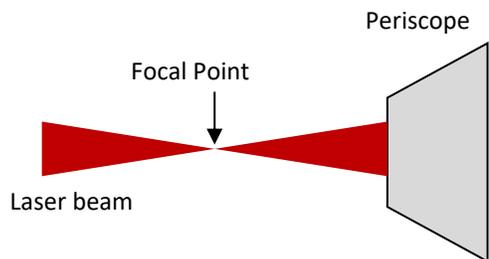

Figure 6 Top View of Periscope and Laser Beam showing Focal Point of Beam
9. Monitor the spatial intensity distribution of the laser beam by placing a piece of paper somewhere in the path of the laser beam, far from the periscope. Bring the paper closer to the periscope. The laser spot will keep getting smaller until it reaches its minimum diameter after which it will increase in size again. This is shown in Figure 6.
Figure 6 illustrates the technique to align the cantilever at the focal point of the laser beam. (a) shows the laser beam uninterrupted with the focal point in front of the periscope. (b) shows the ideal location for the cantilever at the focal point of the laser beam. (c) shows the cantilever placed too far from the periscope and (d) shows the cantilever placed too close to the periscope